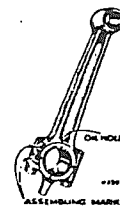

Fig. 13.
63. The connecting rod is also made of special aluminum alloy which combines strength with light weight. The lower bearing is of conventional type used with splash lubrication, and should it become loose, can be refitted. When assembling connecting rod to crankshaft, the oil hole as shown in Figure 13 must be toward the magneto. When replacing the cap the assembling marks must be on the same side as shown in figure 13.